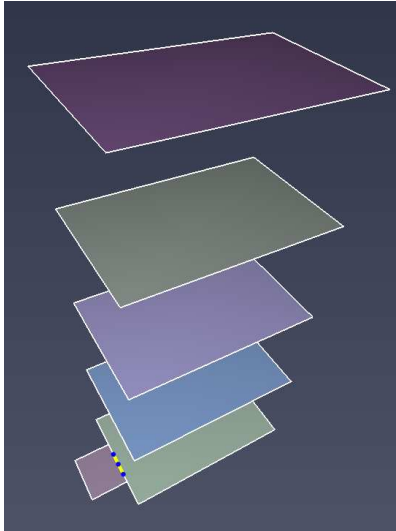

Figure 66. Draw elevator door
2. Draw all doors on the boundary of the base room, see Figure 66. Occupants will use these doors on every floor to enter and exit the elevator.